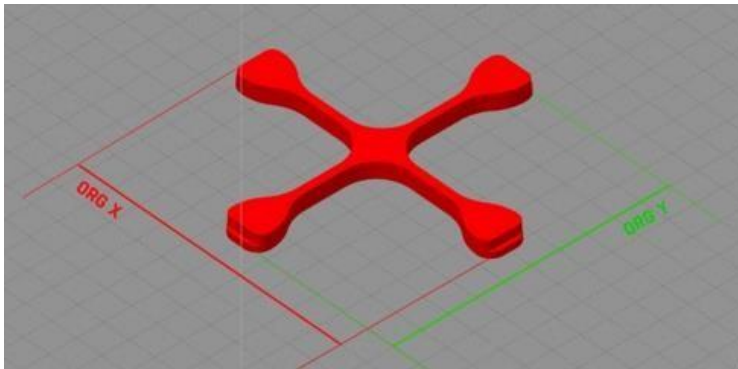

Fig. 2 Model *Dimmension_Calibration.stl*
1. Download the .stl model of the calibration solid *Dimmension_Calibration.stl* (Fig.2). The .stl model can be downloaded from www.3dgence.com/support in the tab *Your files* (the tab is available after you sign up and register your device).